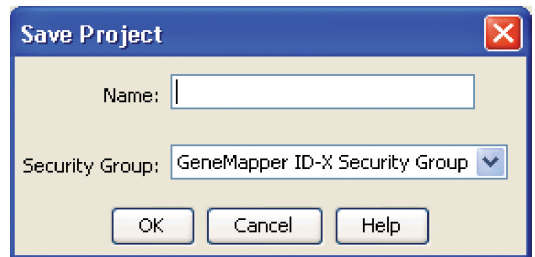

Figure 20. 'Save Project' window.
9. If all analysis requirements are met, the 'Save Project' window will open (Figure 20).